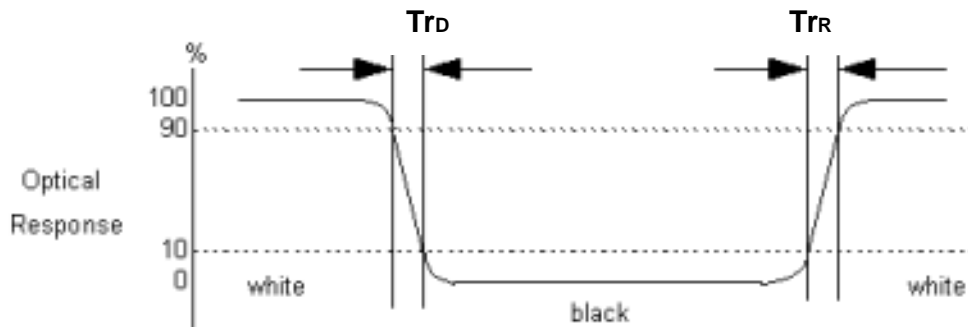

**Fig.4-2 Optical measurement point**
2. Surface luminance is luminance value at point 1 across the LCD surface 50cm from the surface with all pixels displaying white. From more information see Fig. 4-2. When  $V_{DDB} = 24V$ ,  $I_{DDB} = \text{TBD}$ .